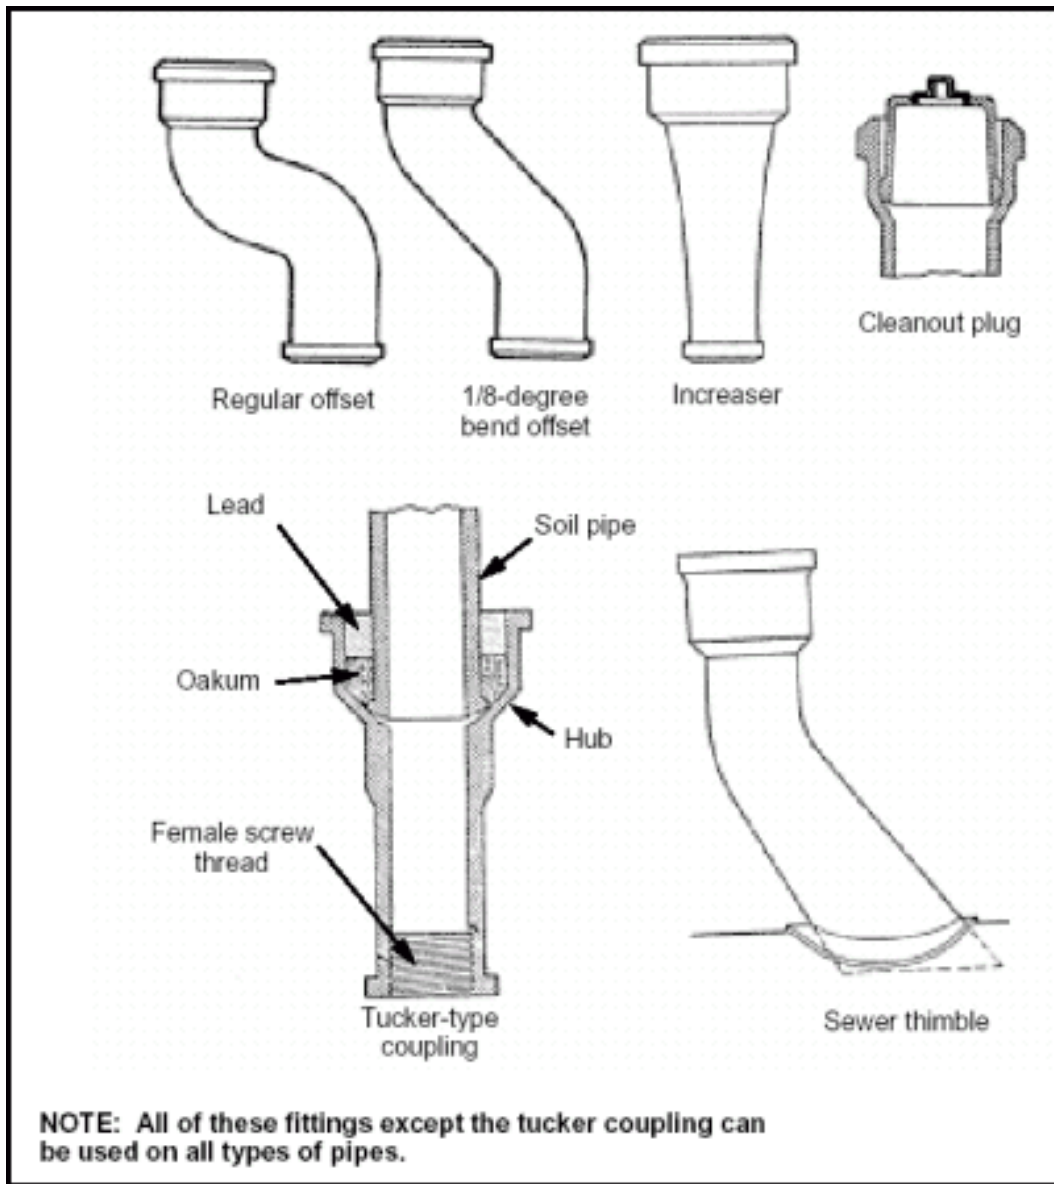

Figure 6-11. Cast-Iron Fittings
- **Offset.** An offset (Figure 6-11) carries soil or waste line past an obstruction in a building. Offsets are either regular or 1/8-degree bend. The 1/8-degree bend gives smoother transition than the regular one.
- **Increaser.** An increaser (Figure 6-11) increases the diameter of a straight-through pipeline. It is usually used at the top of a stack.
- **Cleanout.** The cleanout (Figure 6-11) is a removable, threaded plug placed in drainage lines for cleaning or removing stoppages.
- **Tucker coupling.** The tucker-coupling fitting (Figure 6-11) connects a hub-and-spigot pipe section to a threaded pipe section. This fitting has a hub on one end and female threads at the other end.
- **Sewer thimble.** The sewer thimble (Figure 6-11) is a special fitting that connects the building sewer line to the main sewer line.